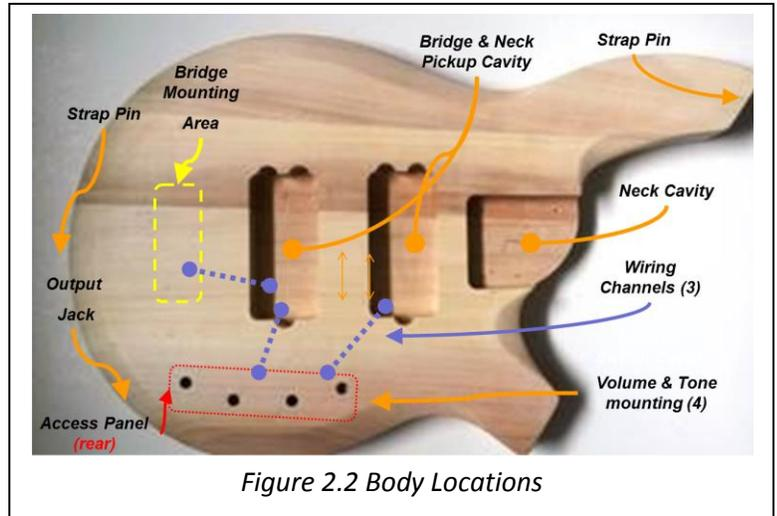

Figure 2.2 Body Locations
1. Check Neck cavity on the Body for pre-drilled (4) mounting holes (Figure 2.2);
2. Carefully slide the Pickguard under the neck and adjust the Pickguard so that it is snug against the neck while centered/aligned with the pickup cavities (Figure 2.2).
1. Check the Bridge mounting area (yellow area in Figure 2.2) for six Bridge mounting holes.
- Check the bridge mounting area (Figure 2.2) for the Bridge ground wire channel to the Bridge pickup cavity.
- Check for pre-drilled holes for the Strap Pins (item 11 on the material list), reference Figure 2.2.